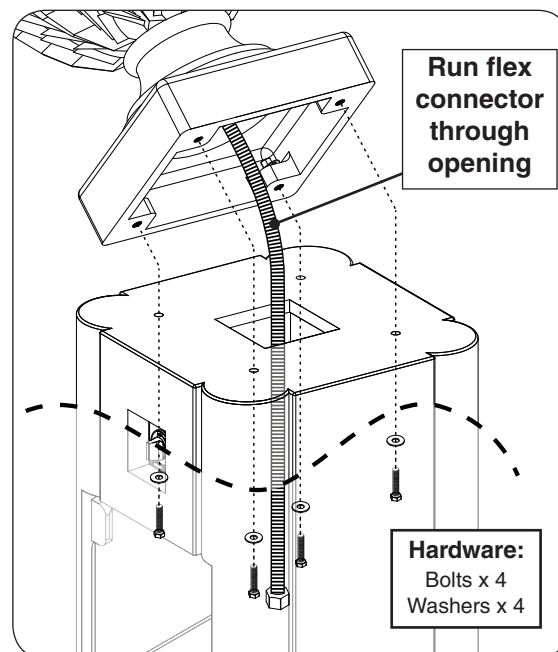

Fig. 16-1 Place urn and secure
1. Carefully place the urn assembly on the pedestal base, ensuring that the flex connector (coming from the inside of the urn) clears the center opening and the four screw holes (found underneath the urn assembly) are aligned with the four holes found on top of the pedestal base (see Fig. 16-1).
2. Insert the hardware kits in the order in Fig. 16-1. Hand tighten, then use a $\frac{9}{16}$ " open end wrench (or equivalent) to fasten.